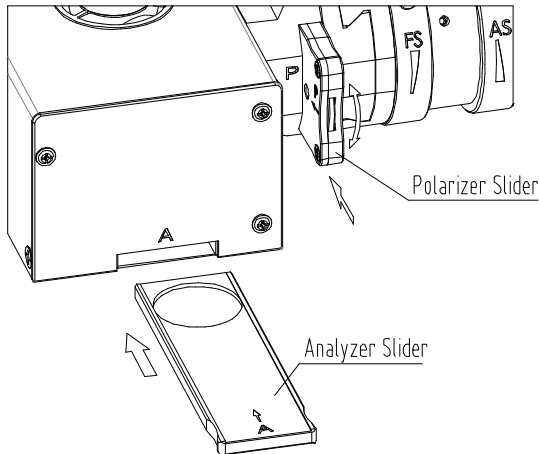

Figure-15 Putting Analyzer Into Optical Path
A. Insert analyzer slider (A) in corresponding slot ,moving into light path(**Figure-15**).
- B. Insert polarizer slider (P) in corresponding slot ,moving into optical path.
- D. Turn the wheel of polarizer to make the field the darkest. (**Figure-15**)